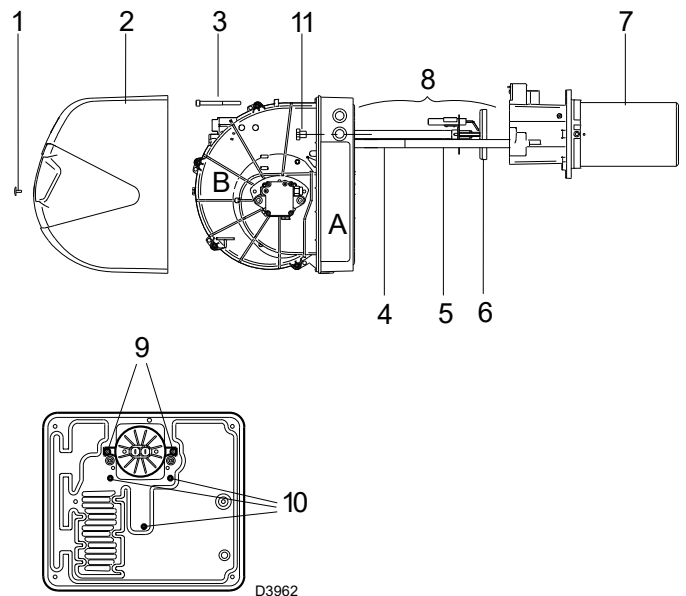

Fig. 33
If it is necessary to maintain the electrical panel A)(Fig. 33) it is possible just to remove the fan assembly B)(Fig. 33) to get better access to the electrical components.
With the burner open as in Fig. 33, disconnect the electrode cables and remove the head unit 8)(Fig. 33) by undoing the two screws 9)(Fig. 33).
Disconnect the cables relative to the fan motor, remove the 3 screws 10)(Fig. 33) on the protective sheet and the two screws 11)(Fig. 33) and slide out the fan assembly B)(Fig. 33) from the guides 4) - 5)(Fig. 33).
Finally it is possible to use 2 of the 3 screws 10)(Fig. 33) to fix the electrical panel to the pipe coupling in the points indicated on Fig. 31, and then perform the maintenance operations.
- Remove screw 1)(Fig. 33) and withdraw the casing 2);